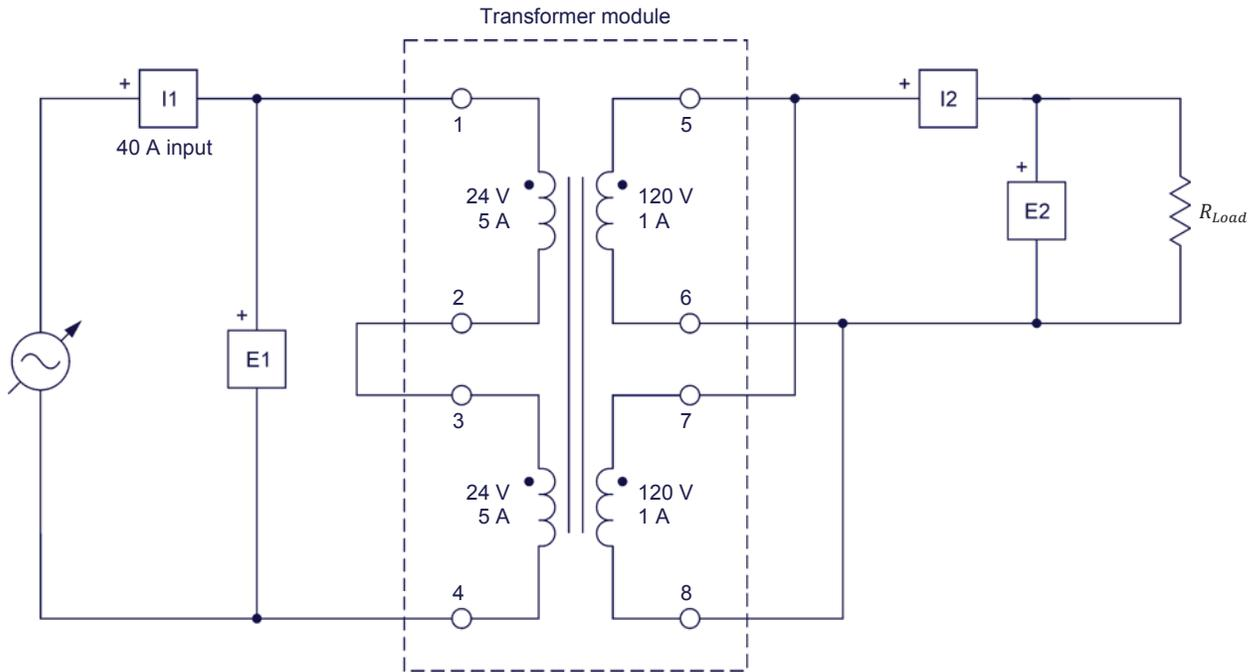

Figure 34. Step-up transformer connected to a resistive load.
24. Connect the equipment as shown in Figure 34.
- 38.** Using two Resistive Load modules, modify the resistive load in the circuit of Figure 34 so that it consists of two resistors in series. This doubles the voltage that can be applied to the resistive load as well as the power which the resistive load can dissipate. To do so, connect the three resistor sections on each Resistive Load in parallel, connect the two Resistive Load modules in series, then set the resistance on each Resistive Load to 60 Ω . The total resistance of the resistive load R_{Load} is thus equal to 120 Ω .